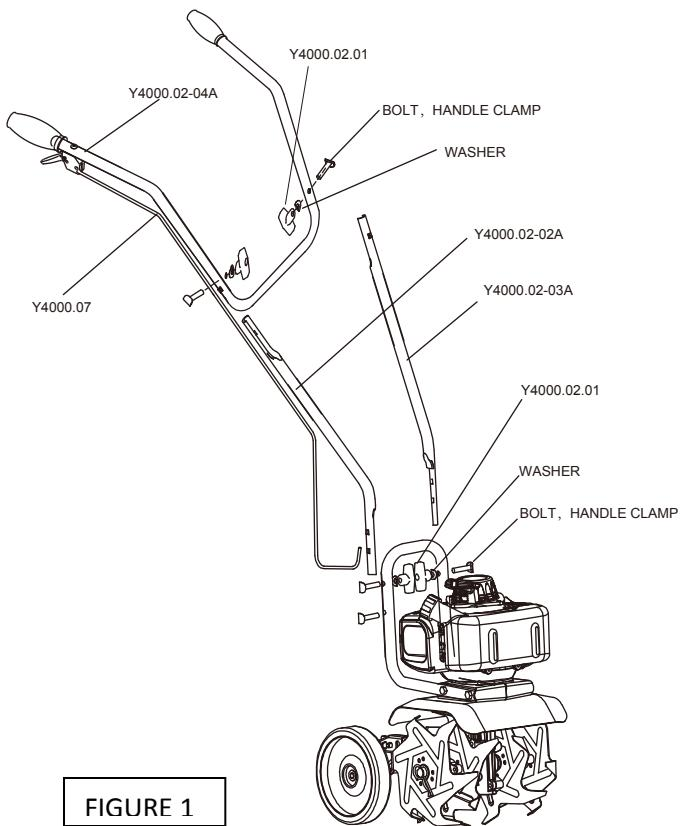

FIGURE 1
2. Using two tee handle nuts, two bolts and two curved washers, assemble the "U" shaped middle handlebar section to the lower handlebar section already attached to the main assembly (See Figure 1). The middle handlebar section can be installed in either a low or high position
3. Attach the upper right and left portions of the handlebars to the "U" shaped middle section using the two remaining tee handle nuts, bolts and curved washers (See Figure 1).